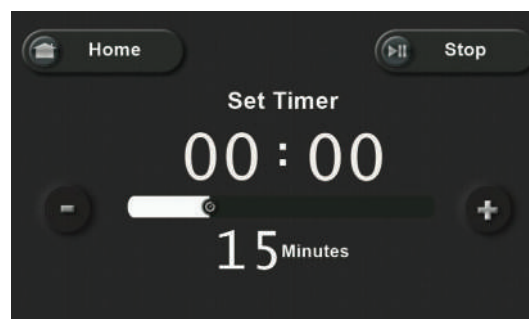

Fig. 1
3. Use the slider to adjust the timer. The maximum amount of time is 30 minutes. (Fig. 1)